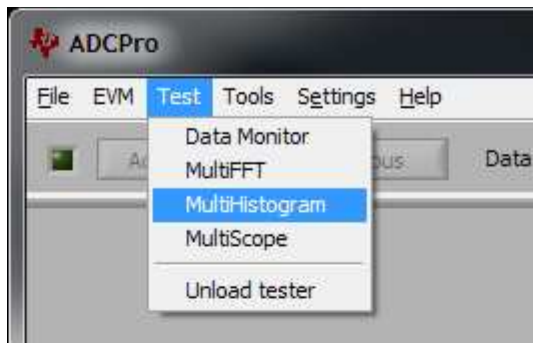

Figure 16. Loading a Test Plugin in ADCPro
- Select a test plugin from the *Test* file menu, as shown in Figure 16. This step may precede steps 1 to 3, but is required before acquiring data in the next step.